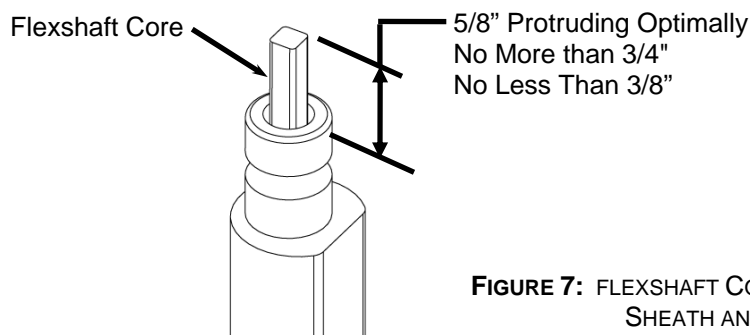

FIGURE 7: FLEXSHAFT CORE ASSEMBLY INTO SHEATH AND MOTOR
4. **Prepare the flexshaft assembly:** Remove the plastic wrapping and rubber band from the end of the flexshaft assembly. Gently pull the protruding flexshaft core (with squared end) out of the sheath several inches. Holding the end vertically, push the core back into the sheath and make sure that it slips into, and engages, the cutting motor. It will drop into the receptacle on the motor side about 5/8ths of an inch. Turn the core by hand and feel for resistance of the motor. If the shaft spins without resistance, push the core inward while rotating until it drops into the slot and engages the motor. The flexshaft core should appear as in Figure 7.